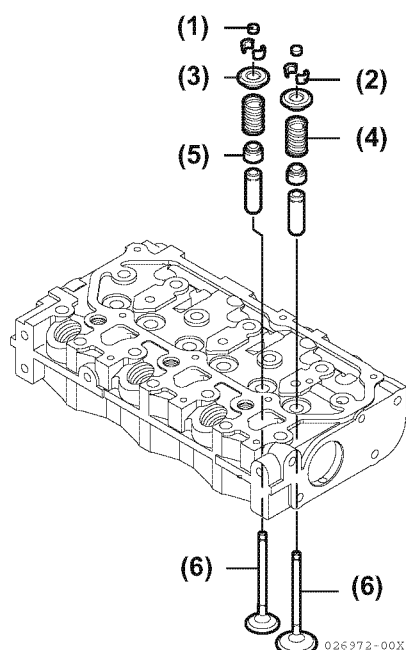

Figure 6-28
4. Install all the valves (Figure 6-28, (6)) in their proper location in the cylinder head.
5. Put the cylinder head on the workbench with the combustion side down to install the valve springs. Reinstall the valve spring (Figure 6-28, (4)) and spring retainer (Figure 6-28, (5)).
7. Insert the valve keeper (Figure 6-28, (2)) and slowly release the tension in the valve spring. Reinstall the valve cap (Figure 6-28, (1)). Repeat steps on all remaining valves.